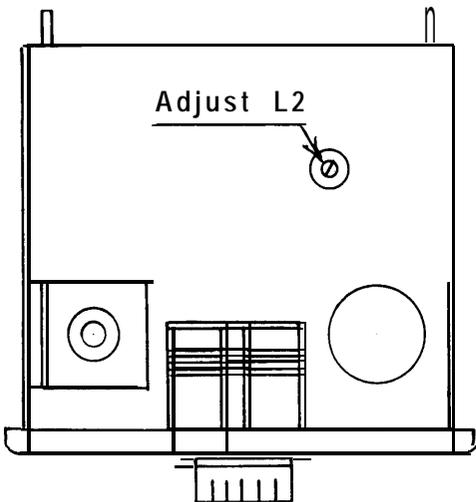

Fig. 5 Bottom of QX'er
7. Set Q-X'er switch to "OFF" position. Carefully adjust input coil, L2 (see fig. 5) for maximum "S" meter reading.